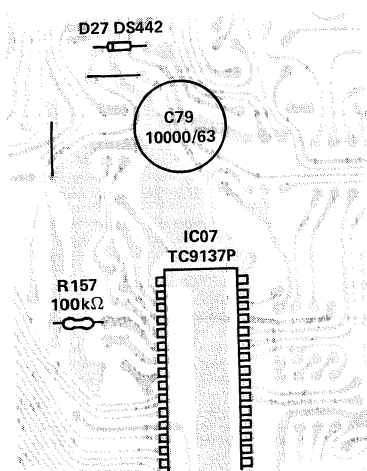

Figure 1
2. Remove R157 (100 k-ohm). (Fig. 1).